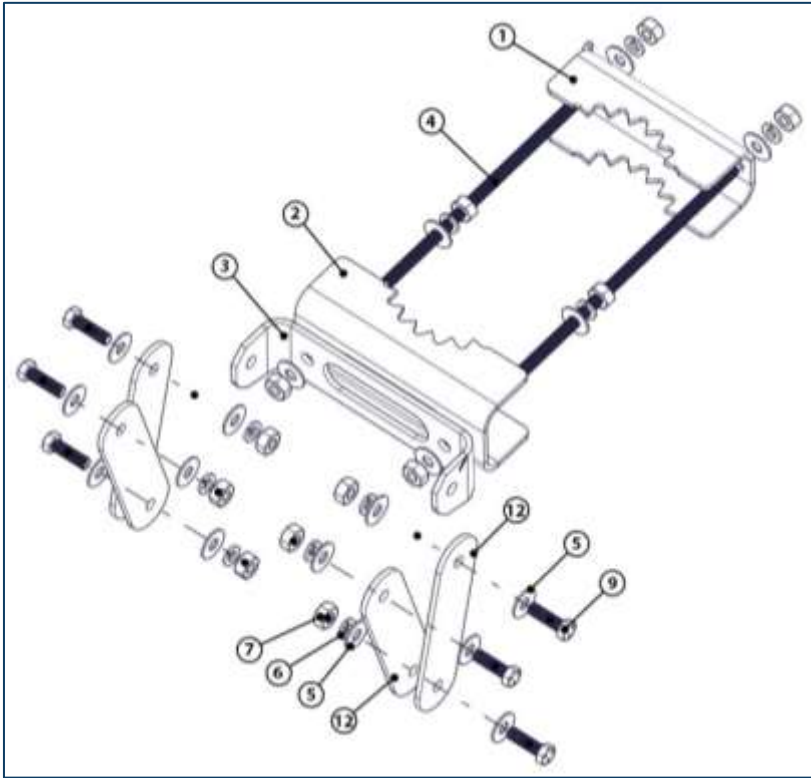

Figure 3: Center mount (8-foot antenna)
NOTE: These item numbers refer to Figure 3 on page 6.
5. Install center mount pieces—back grip bracket 1, anti-rotation bracket 2, and center link bracket 12—onto antenna as shown in *Figure 3* using threaded rods 4 and the following 3/8" hardware: 5, 6, 7, and 9. Leave all fasteners associated with tilt and pole loose enough to allow free rotation of the parts. Make sure the threaded rods do not extend past the nut closest to the antenna.